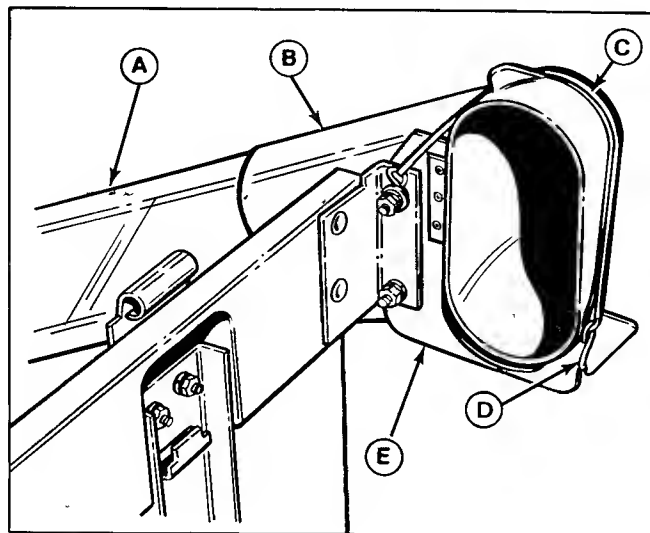

Figure 12.
13. Insert tube (A, figure 12) into elbow, then insert the elbow (B) into the elbow bracket (E). Pull the rubber strap (C) over the elbow and hook as shown.
2. Raise the cover and disconnect the rubber strap (C, figure 12). Remove the adapter, tube and elbow as an assembly.